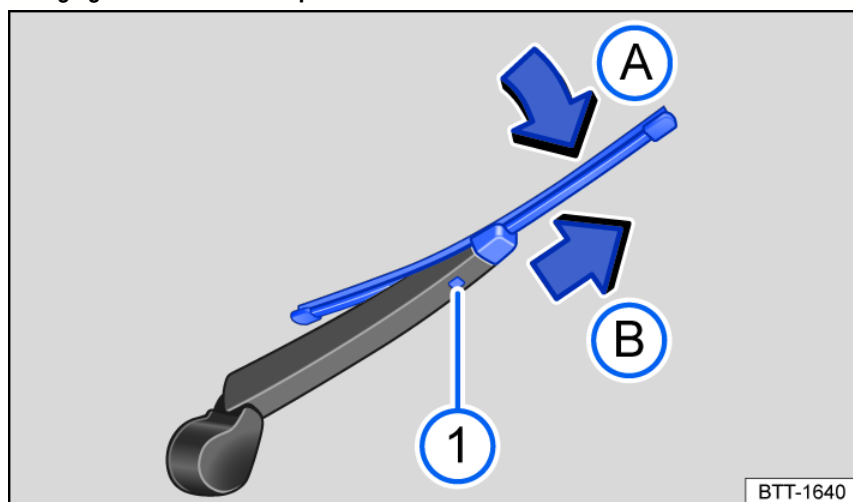

Fig. 134 Changing the rear window wiper blade.
3. Press and hold the release button fig. 134 .
4. Tilt the wiper blade toward the wiper arm fig. 134  while removing it in the direction of the arrow . You may need to use more force to do this.
5. Slide a new wiper blade with the same length and design onto the wiper arm in the opposite direction to the arrow until it engages fig. 134 . For this to work the wiper blade has to be folded out fig. 134 .